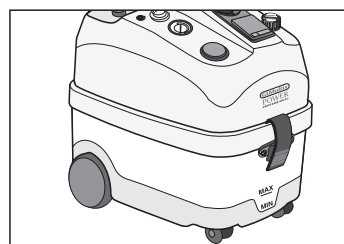

Fig. 7a
- Fill the recovery tank (G) with 2.5 litres of water, up to min. level (fig. 7a). To do this, you first need to remove the top part of the appliance using the catches provided (F).
- Put the top part of the appliance back in place on the recovery tank. Observe the direction indicated Fig. 7a).
- Fasten the two parts together using the catches provided (F) and ensure that the two parts are properly lined up. While operating the appliance, make sure that the max. level is not exceeded; this will prevent water leakages from the muffler.